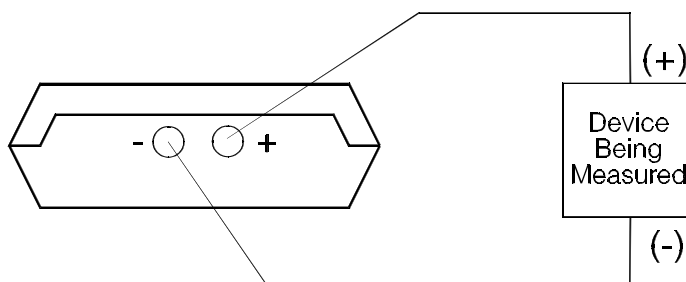

Figure 2 - Voltage Loop Readings
2. When reading a voltage, the PCL432 can measure over a range of 0-200 mV or 0-20 Volts. Connections are shown in Figure 2.